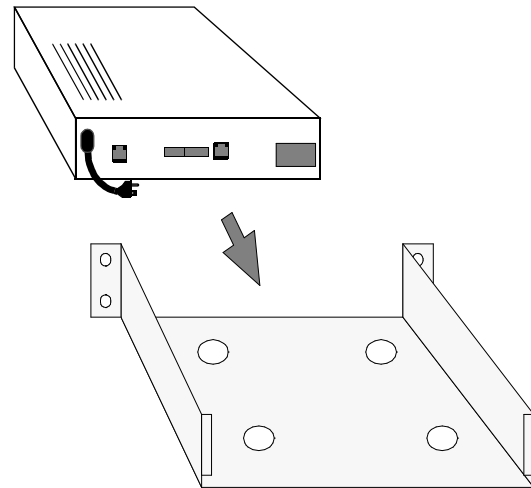

Figure 2-1 Rack Mount Installation
1. Insert the 3131 (rear first) into the casing as shown in Figure 2-1.